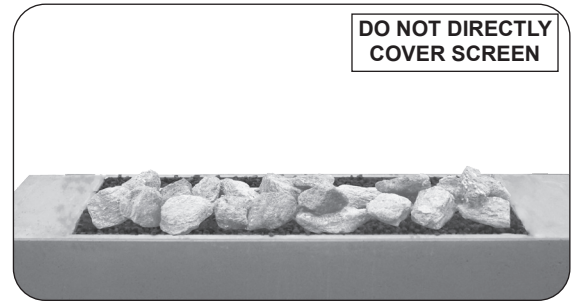

Fig. 29-2 Volcanic stones option
2. Pour the volcanic stones evenly into the burner area (see Fig. 29-2). **Store any excess media in a safe location.**